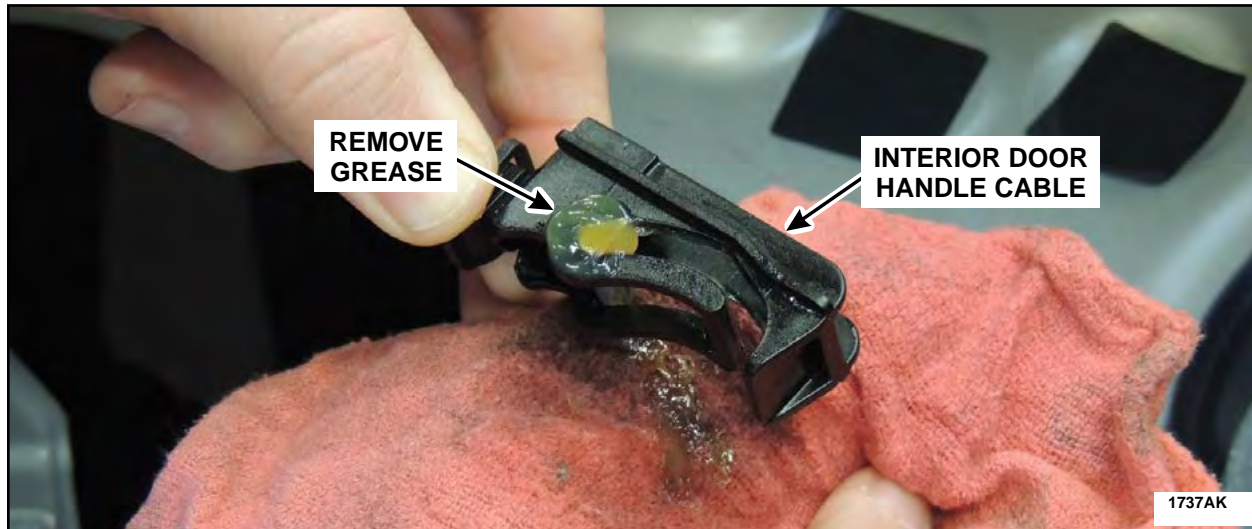

FIGURE 85
14. Using isopropyl alcohol and a clean shop cloth, thoroughly remove grease from the interior door handle cable mechanism. See Figure 85.